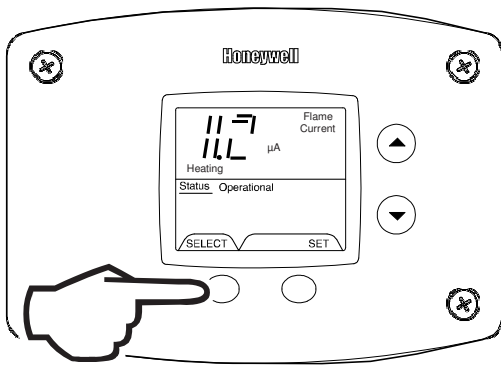

Fig. 47
3. Press the 'Select' button until a number value is displayed with 'Flame Current' to the right of the number. The value displayed is in microamps ( $\mu\text{A}$ ). (Fig. 47)